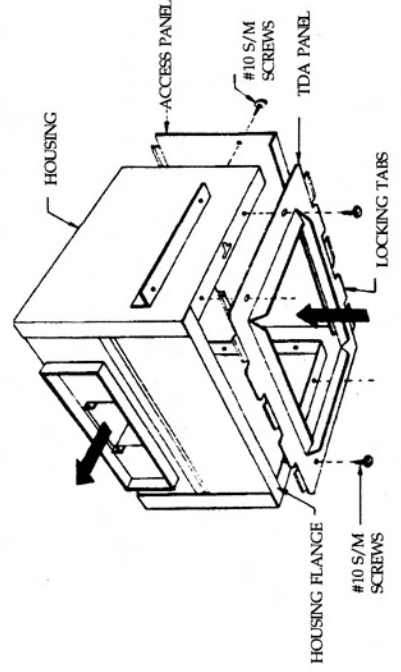

FIG. 4
- 2) REASSEMBLE THE TDA AND ACCESS PANELS AFTER EXCHANGING LOCATIONS; FIRST SLIDE THE 3 LOCKING TABS OF THE TDA PANEL INTO THE HOUSING FLANGE. NEXT SLIDE THE 3 TABS OF THE ACCESS PANEL INTO THE HOUSING. NEXT ENGAGE THE ACCESS PANEL RETURN FLANGE INTO THE 3 LOCKING TABS ON THE TDA PANEL. FINALLY REINSTALL THE SIX #10 SCREWS. SEE FIG. 4